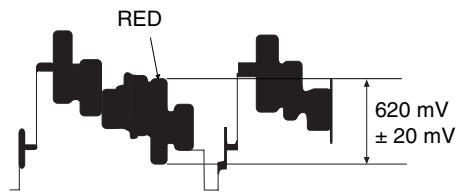

Fig. 5-1
(3) Chroma Gain Adjustment (Figs. 5-1, 5-2, 5-3)
- 3) When using an oscilloscope (Fig. 5-1):